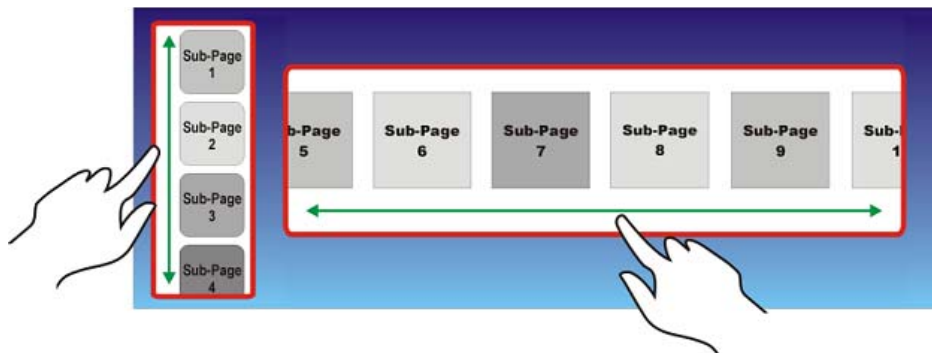

FIG. 84 Scrolling Region
- Each item within the Scrolling Region can be pressed like traditional buttons (FIG. 84):